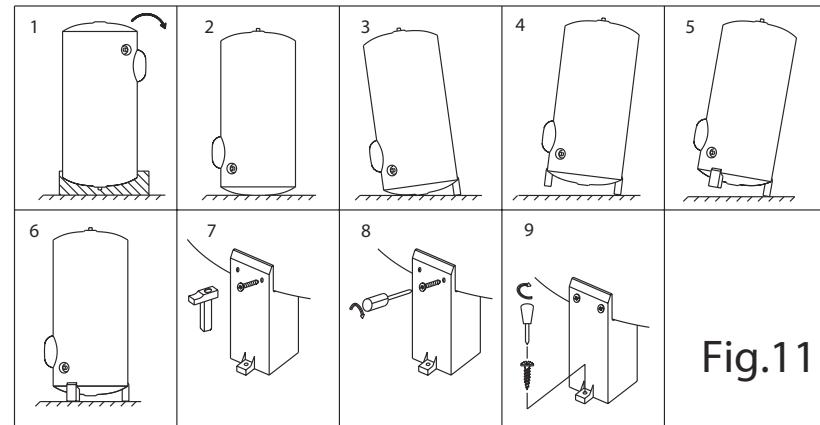

Fig. 11
- Fig.11 A- eau chaude – bague rouge
- Fig.11 Model on base, assembly on legs